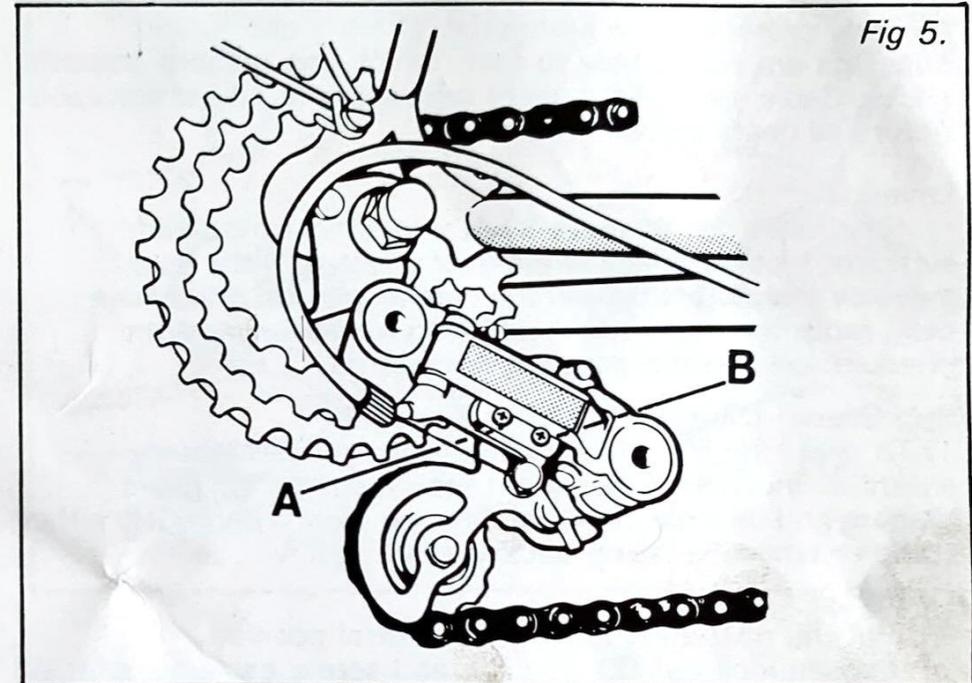

Fig 5.
Adjustment is correct when the chain engages smoothly on to the smallest sprocket when the gear shift lever is at its most forward position. The roller cage of the mechanism should be directly in line with the small sprocket. If the chain is out of line adjust screw (B) (Fig 5.) in or out until the chain and sprocket are in line. Now change gear on to the largest sprocket, closest to the wheel. Again the chain should engage smoothly and run in perfect line.
Take care that the roller cage does not touch the spokes of the wheel. By adjustment of screw (A) (Fig 5.) perfect alignment can be obtained.